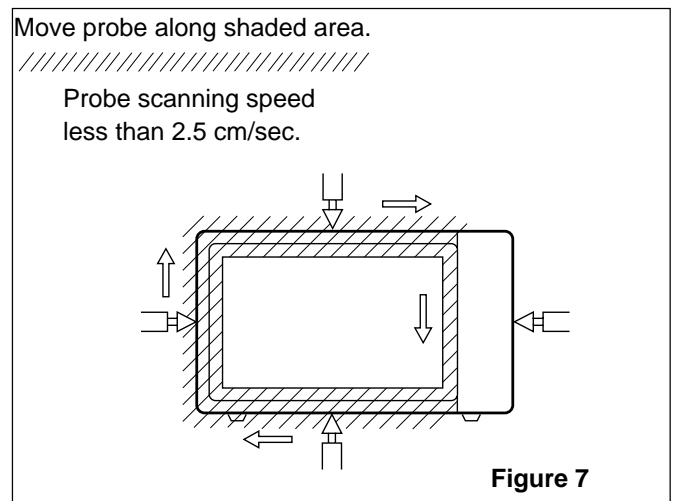

Figure 7
- (1) Pour 275 ±15cc of 20 ±5°C water in a beaker which is graduated to 600 cc, and place the beaker in the center of the oven.
- (2) Set the energy leakage monitor to 2,450 MHz and use it following the manufacturer's recommended test procedure to assure correct result.
- (3) When measuring the leakage, always use the 2 inch (5cm) spacer supplied with the probe.
- (4) Operate the oven at its maximum output.
- (5) Measure the microwave radiation using and electromagnetic radiation monitor by holding the probe perpendicular to the surface being measured. (See Figure 7)